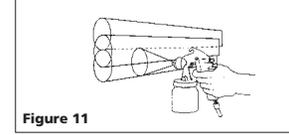

Figure 11
- Overlap strokes just enough to obtain an even coat (See Figure 11).